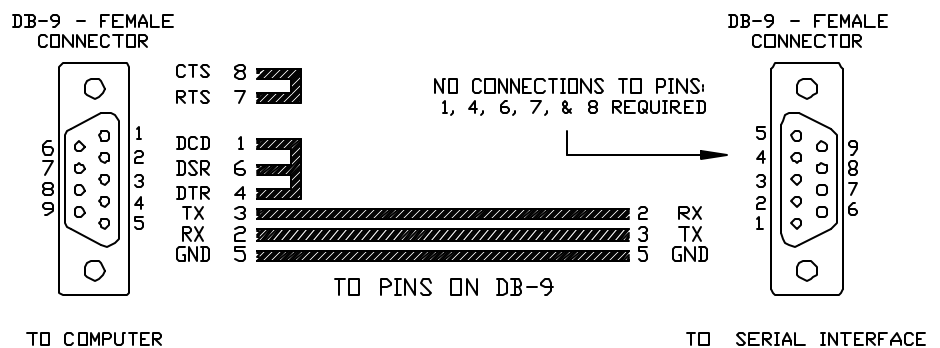

FIGURE 3
- If cables are not long enough, or will be installed in the walls, you can make a cable using the diagrams in Figure 3.